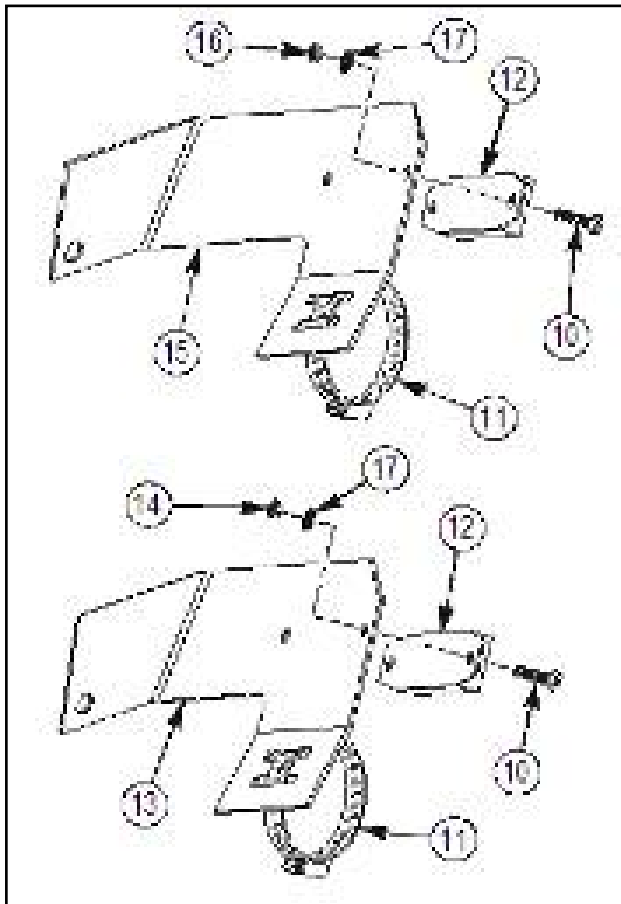

Figure 17c.
4. Remove two screws (10), locknuts (16), serrated washers (17) and fire sensor (12) from existing fire sensor bracket (15) as shown in figure 17c. Retain all parts.
5. Remove and retain existing clamp (11) from existing fire sensor bracket (15) and B-pillar support tube (5). Refer to figure 17c.
6. Install existing clamp (11) through 6435677-01M1 right fire sensor bracket (13), and around B-pillar support tube (5). Do not tighten clamp (11) at this time. Refer to figure 17c.
7. Install fire sensor (12) on right fire sensor bracket (13) with two existing screws (10), serrated washers (17), and locknuts (14) as shown in figure 17c. Tighten locknuts (14).